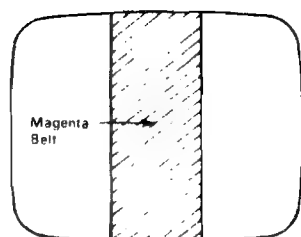

FIGURE 4
3. Pull the Deflection Yoke backward so that the Magenta belt will appear. (See Fig. 4)